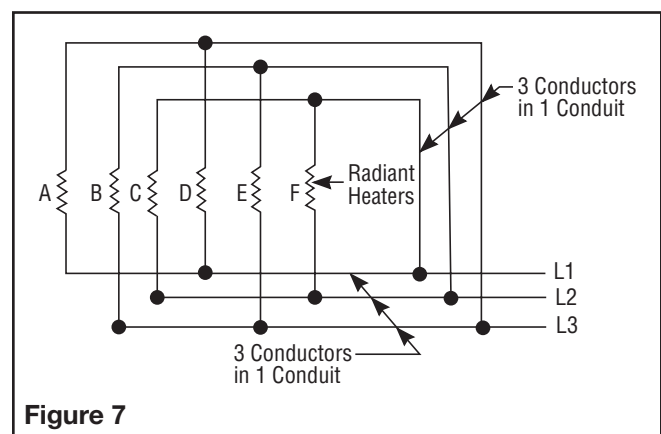

Figure 7
9. DELTA CONNECTIONS — When heaters occur in multiples of three, they may be connected to, and balanced across, threephase lines. The most commonly used connection is the delta connection illustrated in Figure 7.